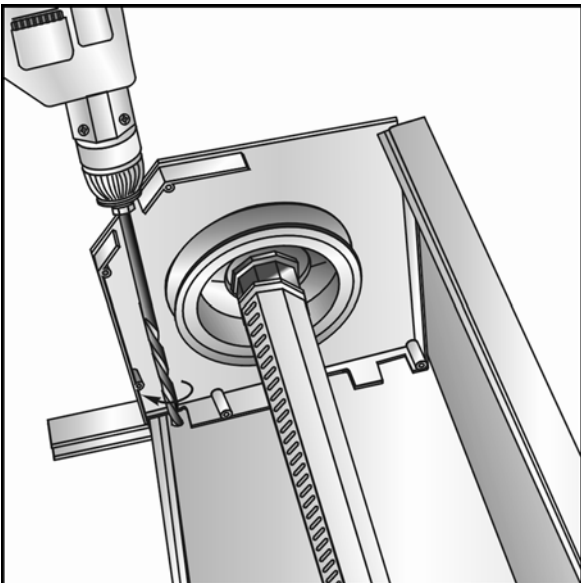

Fig. 2.11
7. Mark and drill jointly a hole of required size in the back raised edge of cap and in the shutter box to draw motor elements (*fig. 2.11*).